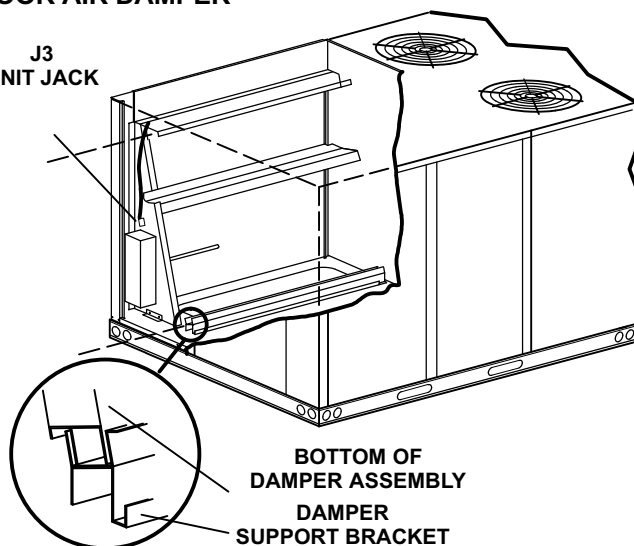
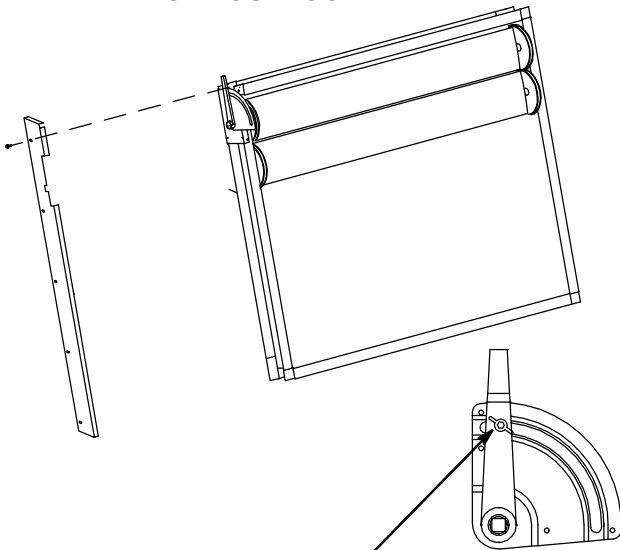

FIGURE 22
FIGURE 23
Outdoor air dampers used on KCA units consists of a set of dampers which may be manually or motor (M) operated to allow outside air into the system (see figure 22). Either air damper can be installed in KCA units. The motorized damper assembly opens to minimum position during the occupied time period and remains closed during the unoccupied period. Manual damper assembly is set at installation and remains in that position. See figure 23. Washable filter supplied with the outdoor air dampers can be cleaned with wa-